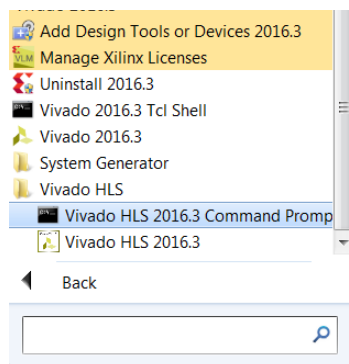

Figure 8-1: Vivado HLS Command Prompt
- On Windows use **Start > All Programs > Xilinx Design Tools > Vivado 2017.4 > Vivado HLS > Vivado HLS 2017.4 Command Prompt** (Figure 8-1).